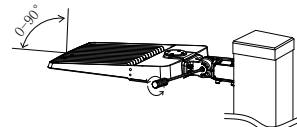

Figure 3-1-4
Step4: If the installation angle of the fixture needs to be adjusted, loosen the screws of the bracket and fix them again after finished adjustment, Figure 3-1-4;